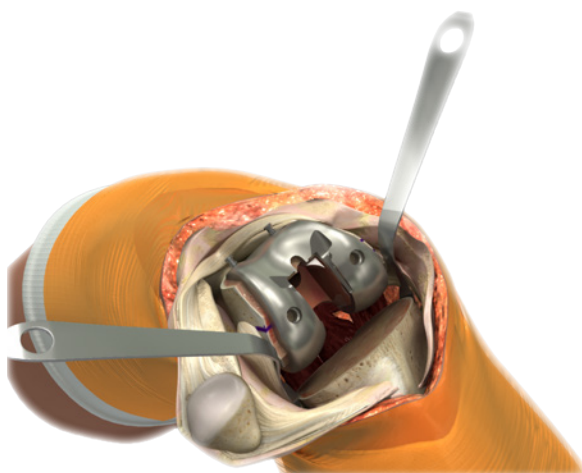

Figure 21b
7. Select the appropriate sized femoral trial PS cam module (matching the femoral trial size selected). Insert the arms of the femoral trial PS cam module into the anterior aspect of the femoral trial box and push posteriorly until seated (Figure 21b).